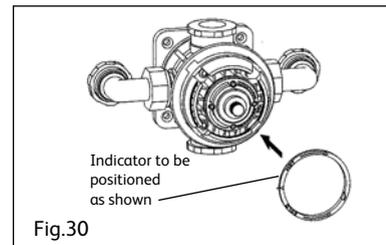

Fig.30
20. Refit the red override ring – ensuring that the lip is pushed fully home. It is suggested that it be initially positioned with the indicator at mid point way on the retaining ring graduations (Fig 30).